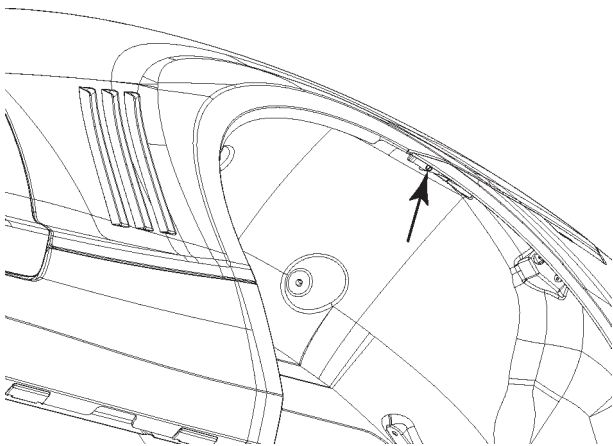

FIGURE 3
- Remove wheel arch bolt using 7mm socket. 1 per side. Retain. Refer to figure 3.